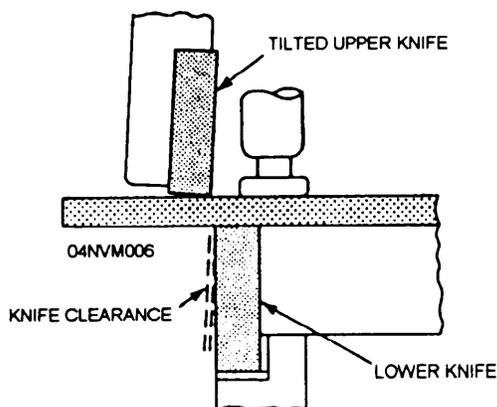

Figure 13-22.—Drop shear knife clearance.
**Knife Clearance.**—After the knives has been installed, you must set the proper clearance (fig. 13-22) between the upper and lower knives. This is the most important adjustment on most drop shears. Unlike a pair of regular handheld shears that have the blades scraping next to each other during the cutting stroke, the knives on the drop shear have a clearance between the two knives to prevent binding during the shearing stroke. If the knives are set too close, the shear will bind and cause damage to the machine. If the blades are set too far apart, the plate will be sheared with rough edges and burrs. If the knives have excessive clearance, thin plate may even be bent between the knife edges, causing binding. The following procedure should be used to set knife clearance: